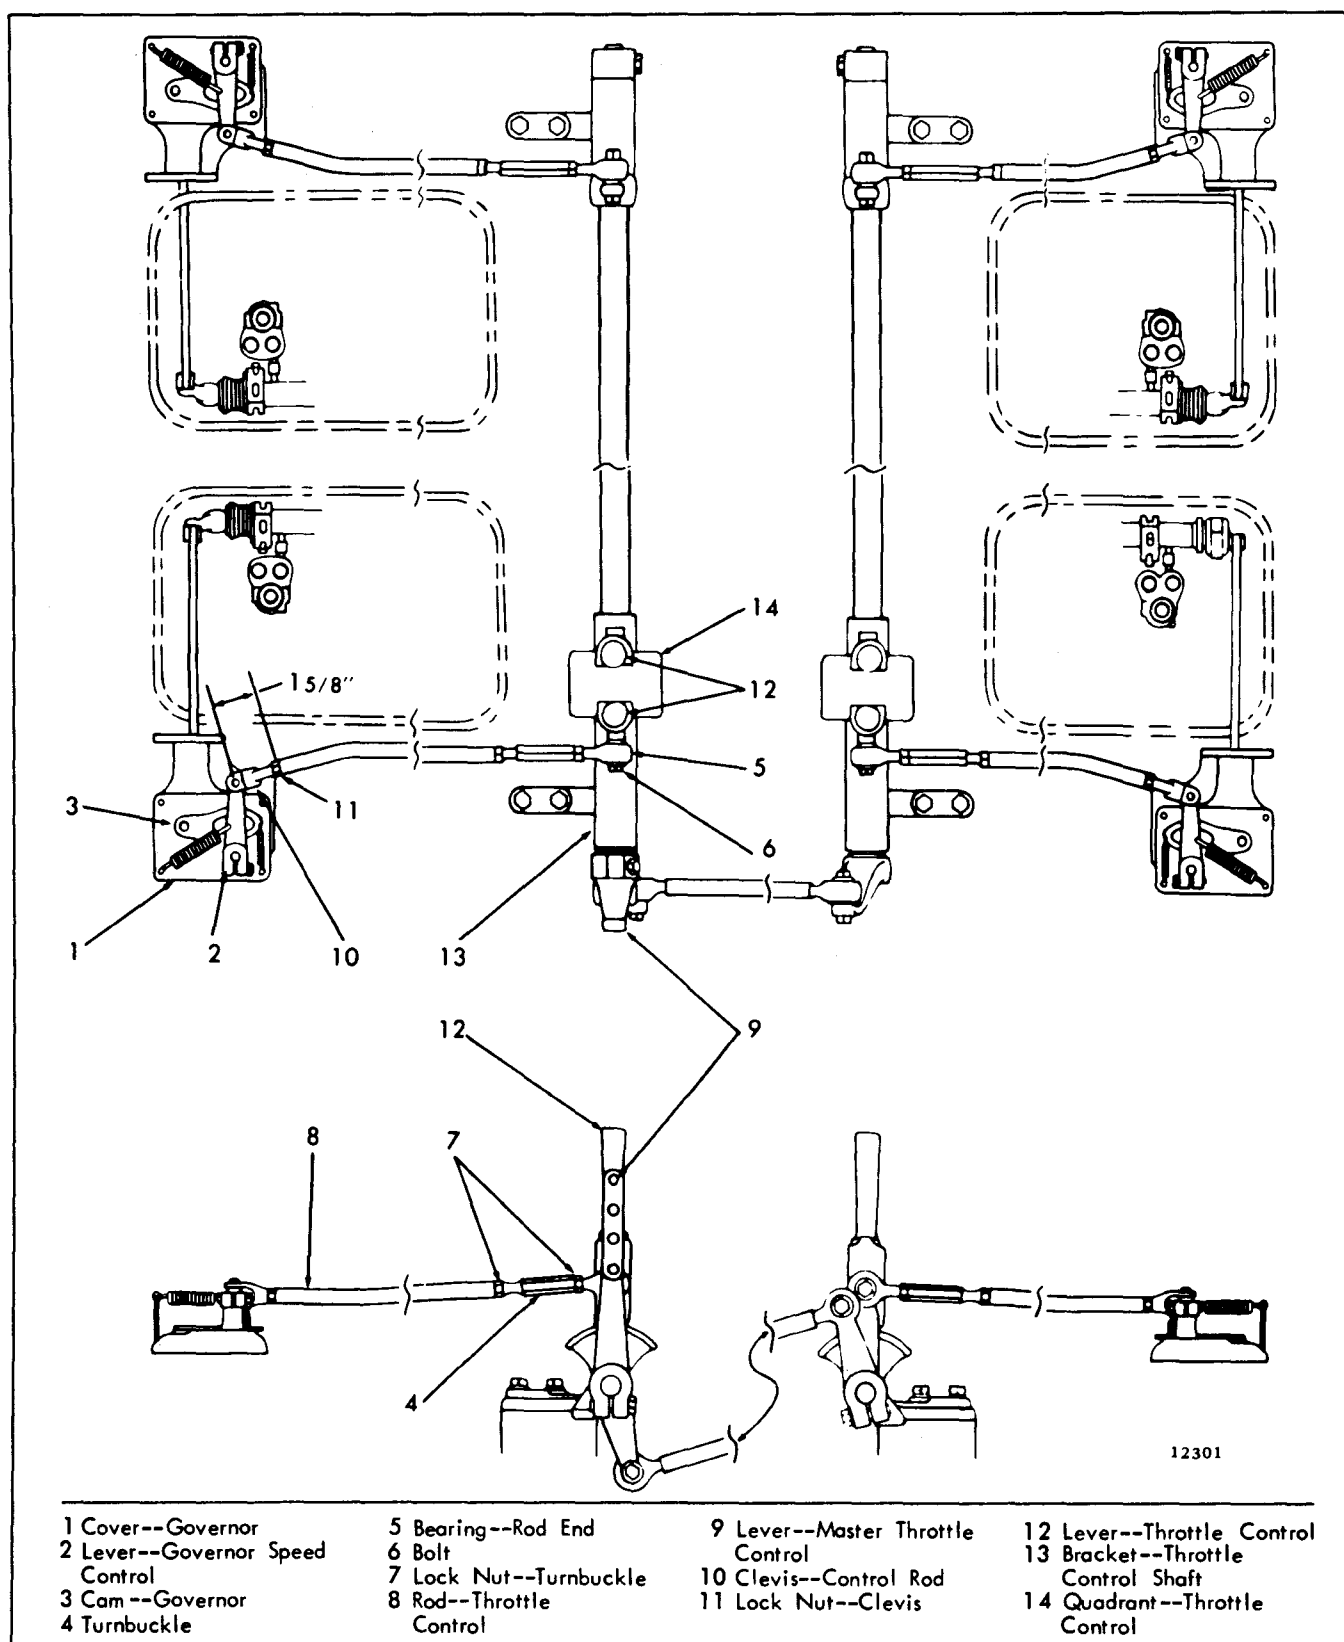
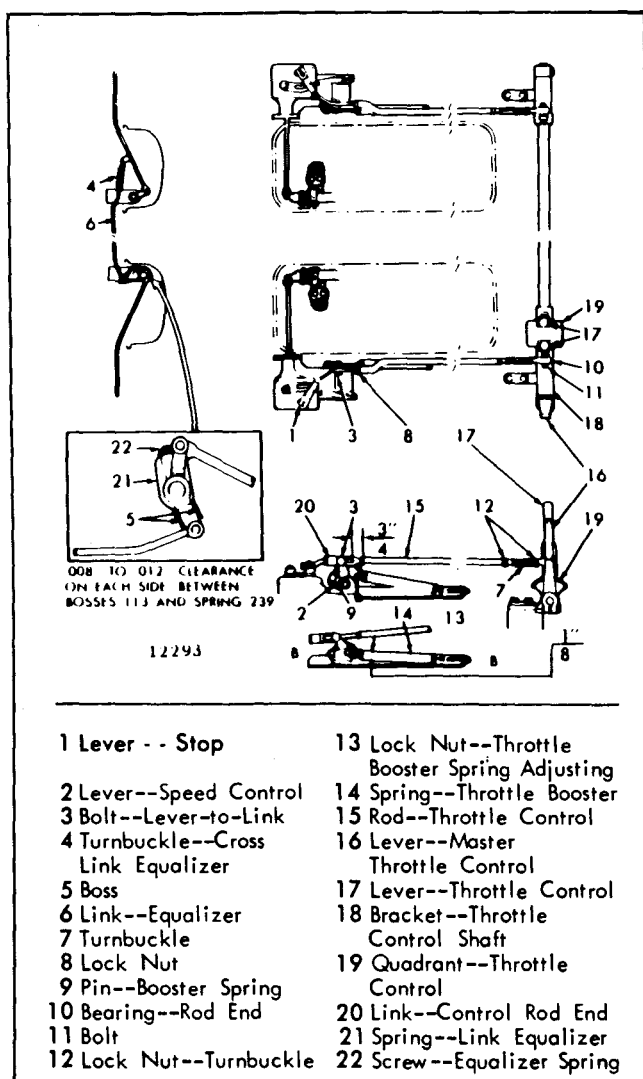

Fig. 2 - Diagram of Throttle Control Linkage for Quad Units with Limiting Speed Mechanical Governors
Fig. 1 - Diagram of Throttle Control Linkage
5. If the governor speed control lever is not in the maximum speed position, loosen the two lock nuts (7) and adjust the turnbuckles (4), Figs. 2 and 3.
- CAUTION:** Use care when tightening the lock nuts to prevent misalignment of the rod end bearings (5), Figs. 2 and 3.
Disconnect the control rods (15) from the governor speed control levers (2). On the side-by-side twin units, remove the cross link equalizer spring (21) from the cross link (6), Fig. 1. Loosen the screw (27) and remove the master control equalizer spring (3), Fig. 2,
1. Check the control rod end link (20), Fig. 1, on each engine. Make sure the bolt (3) is just touching the end of the link in the idle position.
3. Move the master throttle control lever (16), Figs. 1 and 2, to the maximum speed position.
4. Make sure the governor speed control lever (2) is in the maximum speed position. The pin in the stop lever (1) must be in contact with the end of the slot in the governor cam (Fig. 1).
5. If the governor speed control lever is not in the maximum speed position, loosen the two lock nuts (12) and adjust the turnbuckles.
nuts to prevent misalignment of the rod end bearings (10), Fig. 1.
- Set the governor booster spring pin (9) $1/8''$ below the over-center line B-B (Fig. 1).
- Release each governor speed control lever (1) individually from its maximum speed position and note its return to the idle position. The lever should return quickly.
- Loosen the throttle booster spring retaining nut on the governor control lever (2). Then loosen the nut and lock nut on the throttle booster spring eyebolt.
- Move the bolt as necessary in the slot of the lever to allow the speed control lever (2) to move from the maximum speed position to the idle position. Hold the bolt and tighten the spring retaining nut.
7. Reconnect the throttle control rods (15) to the levers.
8. Set the gap between the end of link (20) and governor control lever (2) at $1/16''$ to $1/8''$ by adjusting the lever on its shaft. While setting the gap, the governor lever must be in the idle position and the forward end of the slot in link (20) must be in contact with the lever-to-link bolt (3).